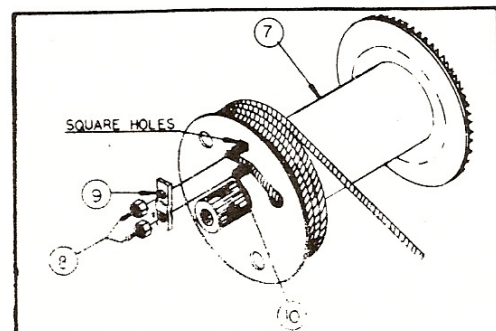

Fig. 2: Cable Installation
1. Feed cable onto top of drum (Item 7, Fig. 2). From inside drum, thread the cable through one round hole in the drum side, until it extends 1-1/2" past the two square holes.
2. Clamp the cable to the outside of the drum with keeper parts (Items 8, 9, 10, Fig. 2). Be sure that carriage bolt heads are on the inside of winch drum.